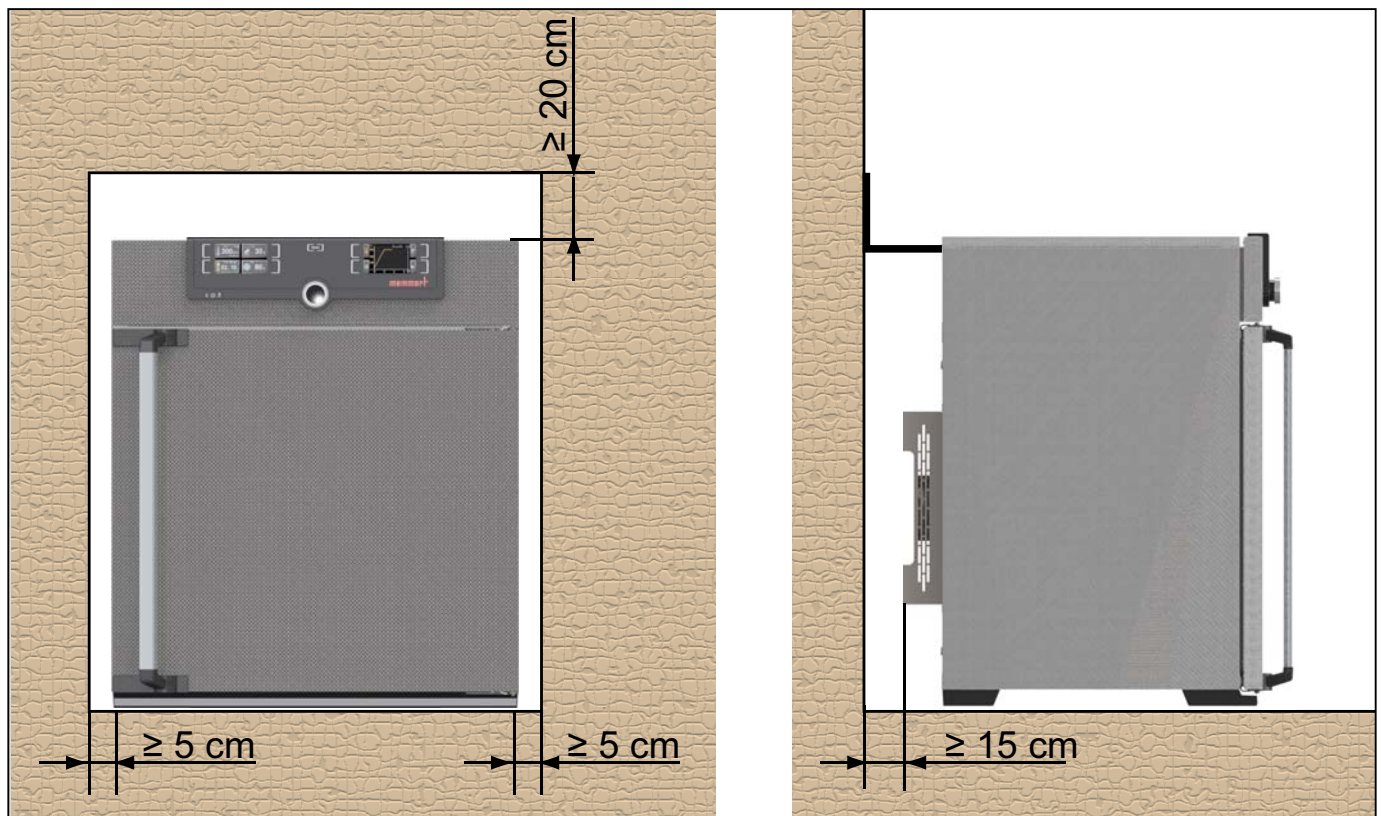

Fig. 9 Minimum clearance from walls and ceiling
The distance between the wall and the rear of the appliance must be at least 15 cm. The clearance from the ceiling must not be less than 20 cm and the side clearance from walls or nearby appliances must not be less than 5 cm (Fig. 9). Sufficient air circulation in the vicinity of the appliance must be guaranteed at all times.
2. Bend the tilt protection upwards by 90 ° in the desired distance to the wall (consider the minimum distance to the wall, see Fig. 9).